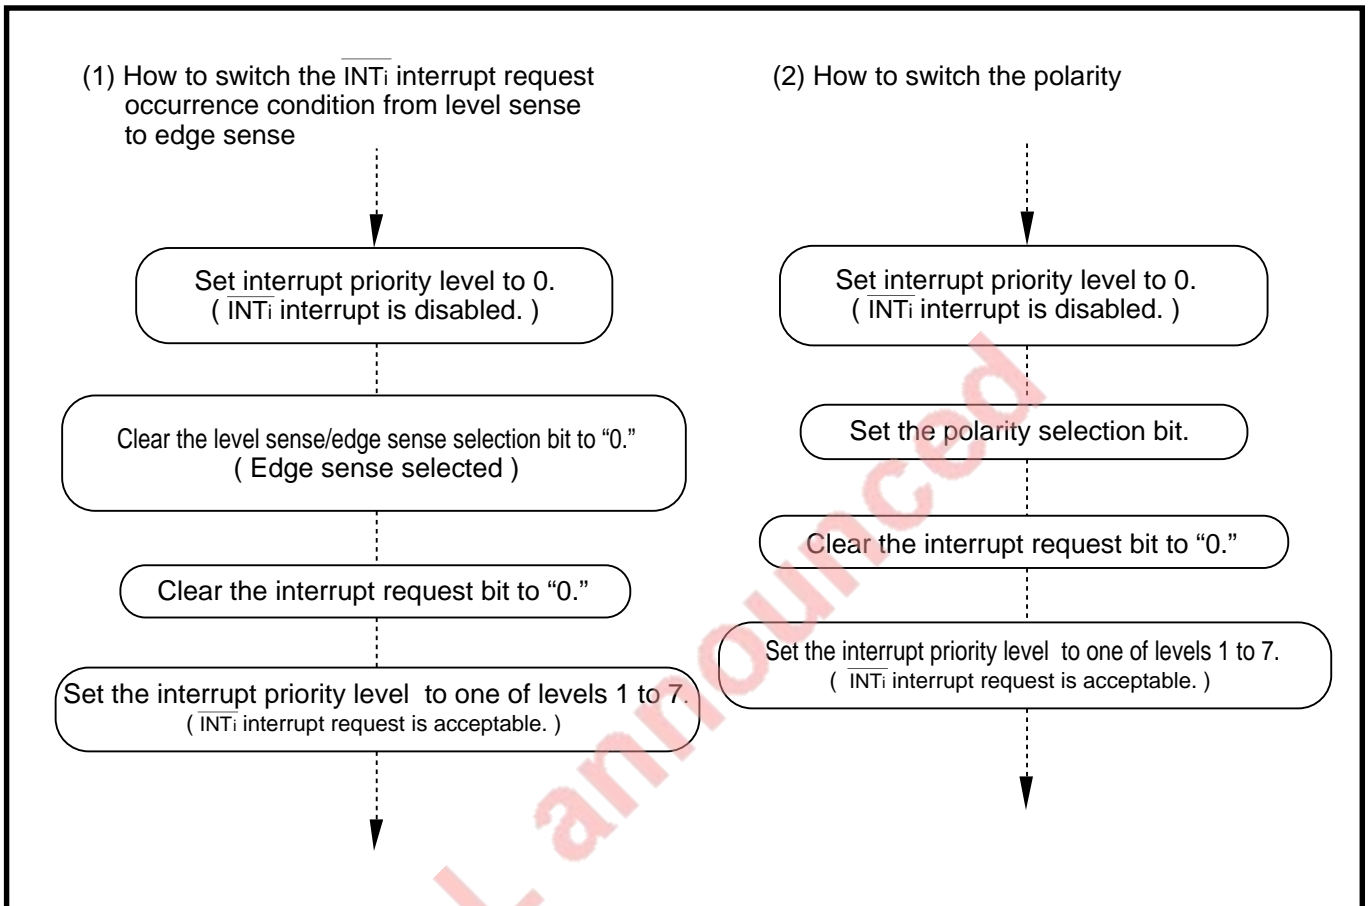

Fig. 4.10.5 How to switch \overline{INT}_i interrupt request occurrence condition
The way to switch the \overline{INT}_i interrupt request occurrence condition from the level sense to the edge sense is shown in Figure 4.10.5 (1).
The way to switch the polarity is shown in Figure 4.10.5 (2).